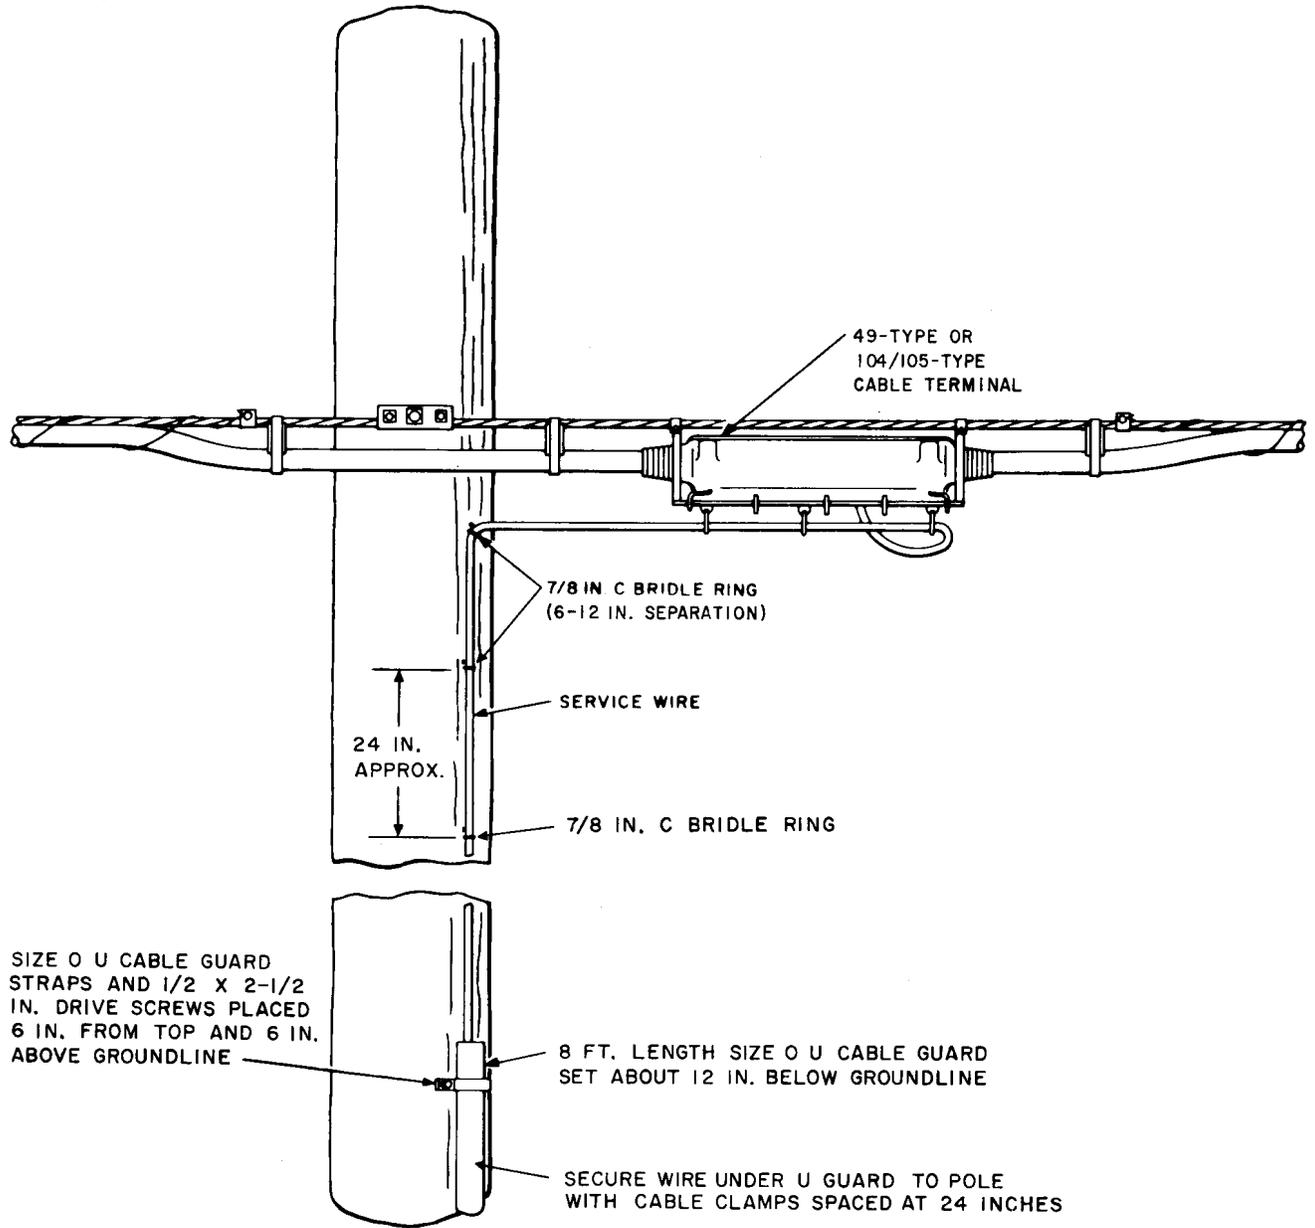

Fig. 37—Buried Plant Run Up a Pole
11.03 Buried service wire can be brought up a pole and terminated directly in a pole- or strand-mounted cable terminal or cable closure if the cable conductor is 24 or 26 gauge. Where fuseless protectors are used at the station and the cable conductor is 22 or 19 gauge and exposed to power contact, a fusible link is required between the cable pair and the service wire. As stated in paragraph 1.05, the 24-gauge conductors in a cable stub or the connecting block of a 49-type cable terminal are satisfactory fusible links. At the groundline, the wire should be protected with an 8-foot length of No. 0 U cable guard. A typical installation terminating in a 49-type cable terminal is shown in Fig. 37.